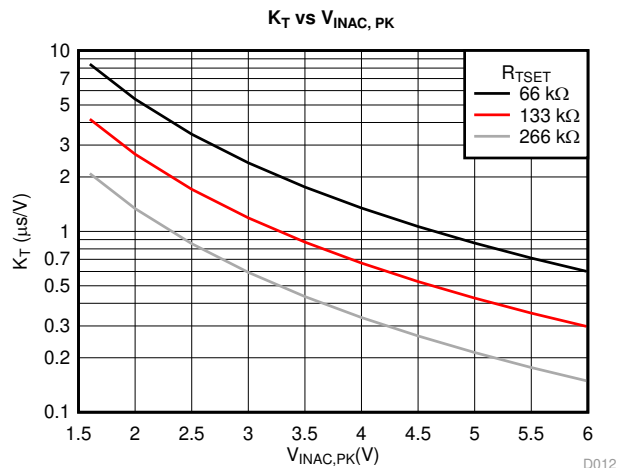

Figure 16. K_T vs Peak Voltage
Gate-drive on-time varies proportionately with the error-amplifier output voltage (V_{COMP}) and inversely proportional to the squared value of the peak of the rectified input voltage sensed through VINAC pin as stated by equation (3). In equation (3) it is shown that the on-time is inversely proportional to the value of resistor R_{TSET} connected between pin TSET and pin AGND. In order to calculate on-time, Equation (4) can be used. Parameter K_T is function of the rectified peak input voltage sensed by pin VINAC as reported in graph of Figure 16. In this graph 3 curves are reported for three different values of R_{TSET} . Two values of parameter K_T are reported in the electrical specs table for two values of VINAC: K_{TL} and K_{TH} corresponding at the VINAC = 1.6V and VINAC = 5V and $R_{TSET} = 133k\Omega$. Because voltage on VINAC is proportional to the line rectified voltage, for t_{ON} calculation purposes we refer to the peak value of this voltage that is obtained through an internal peak detect. K_T is inversely proportional to the squared value of VINAC peak value so it is the t_{ON} time realizing the so called voltage feed-forward compensation. The Voltage Feed-forward function modifies the MOSFET on time according to line voltage so, ideally output power delivered does not change if line voltage changes. When operating in single phase mode K_T is called K_{TS} and its value is doubled.
Figure 16 shows the values of K_T versus the peak voltage value on VINAC pin.